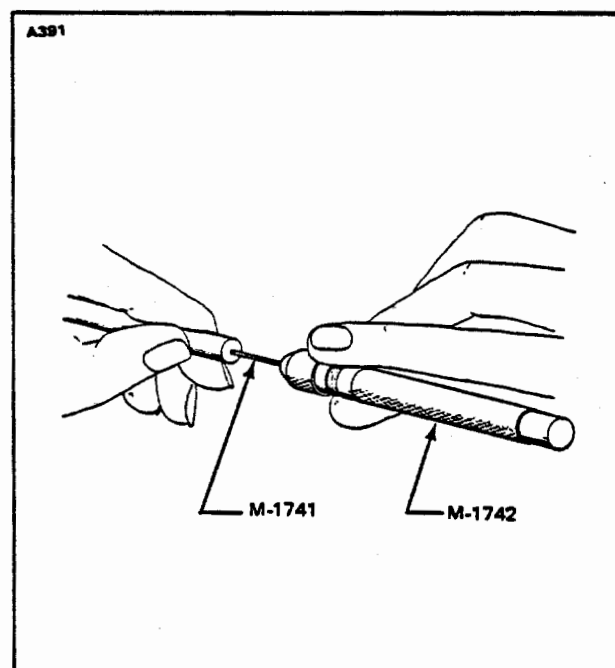

Figure 8-24. Removing Silicone Rubber from Wire
- f. Using M-1742 Pin Vise, insert M-1741 Drill (#72 drill). Drill out the silicone rubber from inside of coiled conductor approximately 0.375 inch deep. Refer to Figure 8-24.